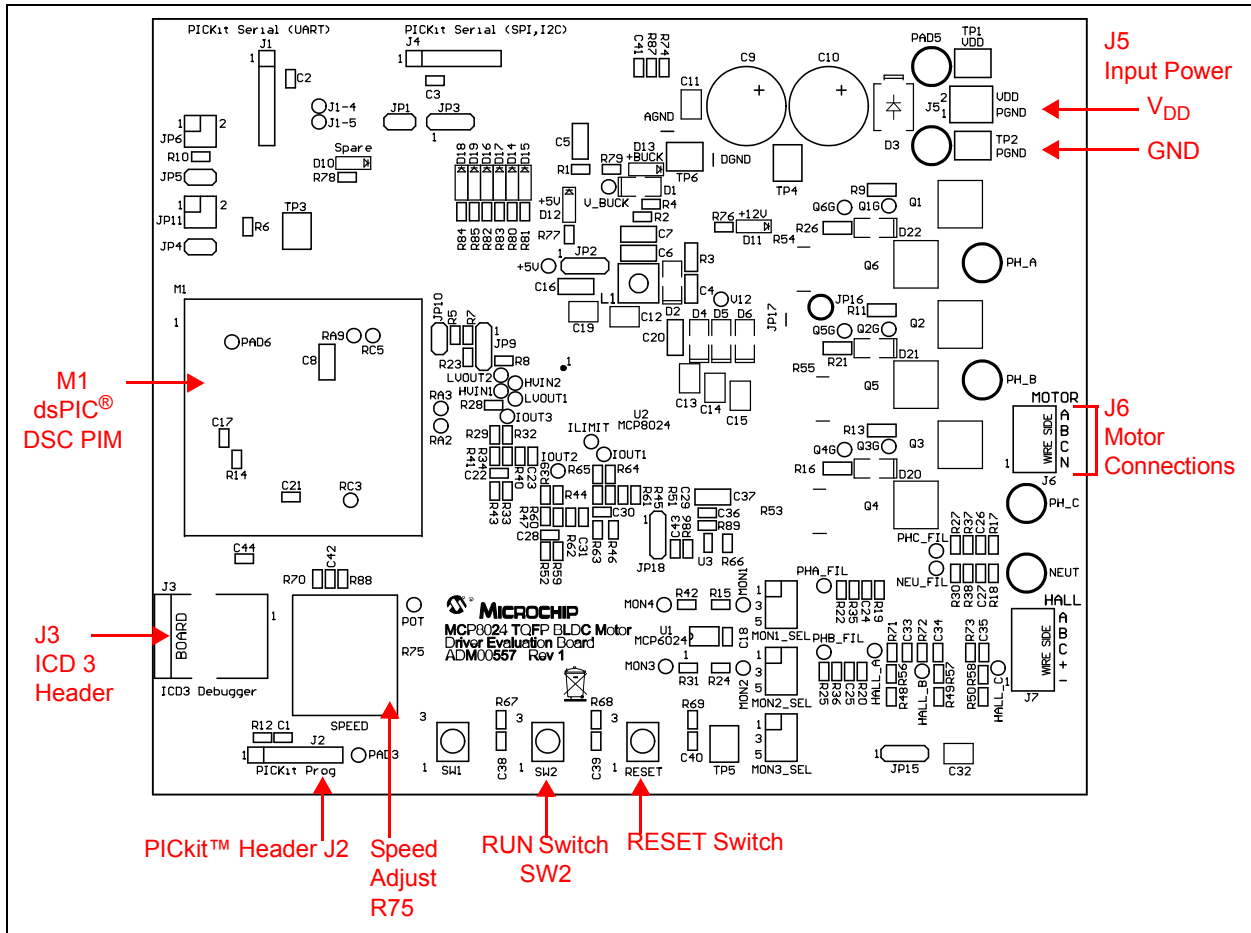

FIGURE 2-2: Connection and Operation Diagram.
2.3.1.2 POWERING THE MCP8024 TQFP BLDC MOTOR DRIVER EVALUATION BOARD (REFERENCE Figure 2-2)
2. Connect the positive side of the input source (+) to pin 2 of J5. Connect the negative or return side (-) of the input source to pin 1 of J5. Refer to Figure 2-2.